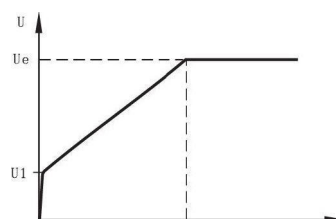

Figure 12-2-1
- a) The soft starter will be under voltage starting mode when code F9 is set to 1 (voltage). Figure 12-2-1 shows the output voltage wave of the output ramp starting. U_l is the starting voltage value at start, when the motor starts, if the current of the motor is within the range of the rated value 400%, the output voltage of the soft starter will increase to U_l rapidly, then the starting parameter set according to the output voltage will rise gradually, and the motor will accelerate smoothly with the rising of the voltage and reach the rated rotation speed when the voltage reaches the rated voltage U_e , then the inbuilt bypass contactor will close and the whole starting process completes.